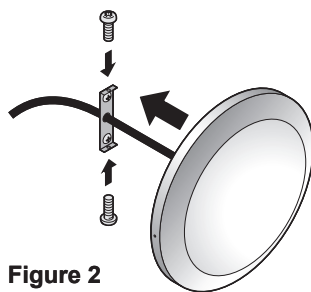

Figure 2
1. Unscrew wall bracket from housing (Figure 2).
4. Fasten housing to wall bracket (Figure 2).